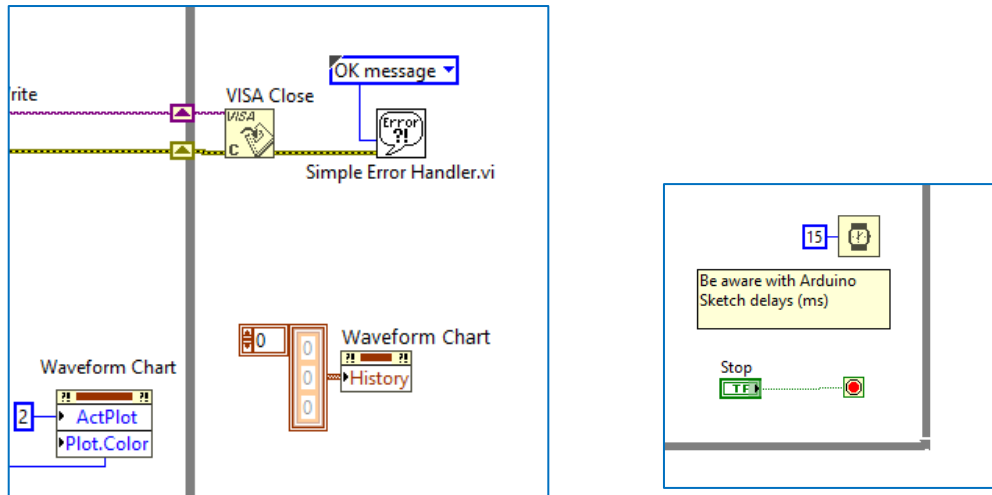

Figure 10. Block diagram. Delete history data, send error, add timer.
6.10.- Make the proper connections as in *Figure 10* to: